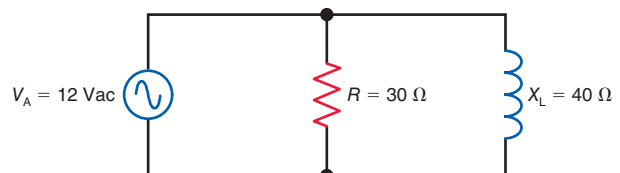

Figure 20-17
- 20.12** In Fig. 20-17, how much voltage is across
- 20.13** In Fig. 20-17, what is the phase relationship between
20.14 Draw the phasor current triangle for the circuit in Fig. 20-17. (Use I_R as the reference phasor.)